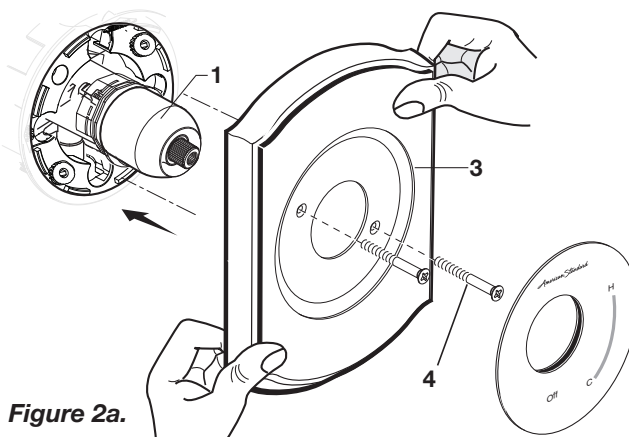

Figure 2a.
- **Figure 2a.** Push ESCUTCHEON (3) onto CAP (1) and attach to valve body with LONG SCREWS (4).